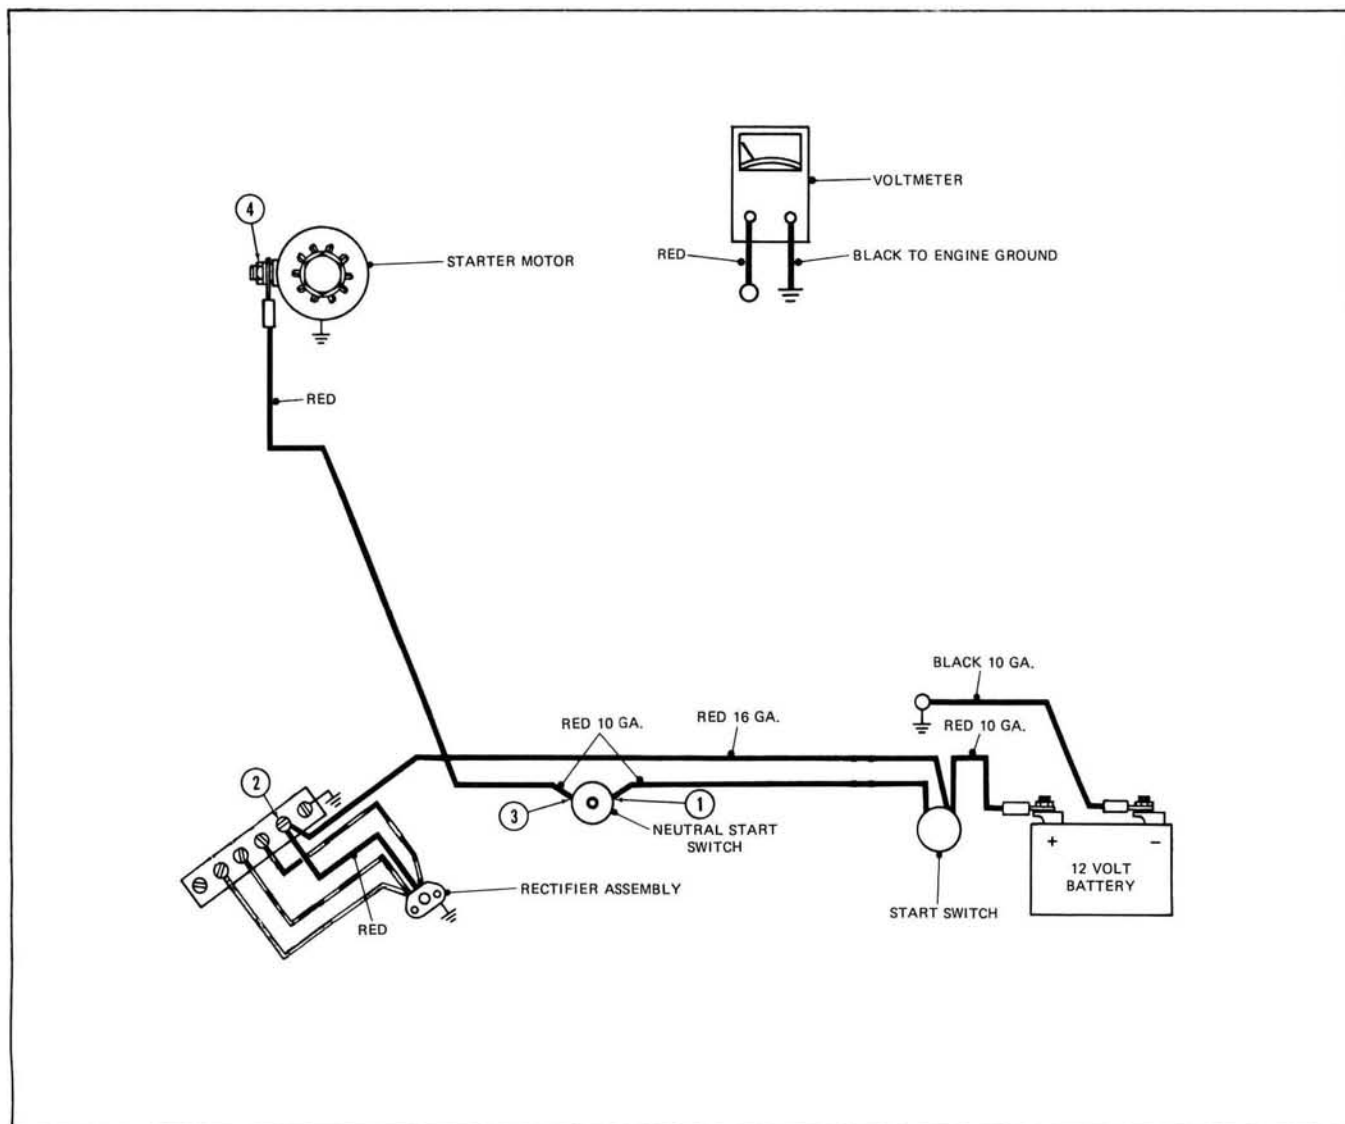

Figure 7-21. Starting Circuit
2. Connect a voltmeter to point (1) Figure 7-21 on neutral start switch. Press starter switch button. Battery voltage should be indicated. No voltage indicated, move meter to point (2) red lead on terminal block. If voltage is indicated, disconnect battery leads at battery. Disconnect starter switch leads at points (1) and (2). Check switch and leads for continuity and replace if defective. See continuity check below.
3. Move meter to point (3) starter motor to neutral start switch red lead. Make sure shift control lever is in neutral. Press starter switch button. Voltage should be indicated. If no voltage indicated, neutral start switch may be out of adjustment. Check switch by manually depressing switch button. If voltage does not indicate, check for loose connections and replace neutral start switch, if necessary. If voltage is indicated, adjust start in neutral switch. See "Start in Neutral Switch Adjustment" page 7-6.
4. Move meter to point (4). Press start switch button. Voltage should be indicated. If no voltage is indicated, lead is open between point (3) and (4).
5. If voltage is indicated at point (4) on starter motor and starter motor does not crank engine, remove and test starter motor. See starter motor removal and test pages 7-3 and 7-4.